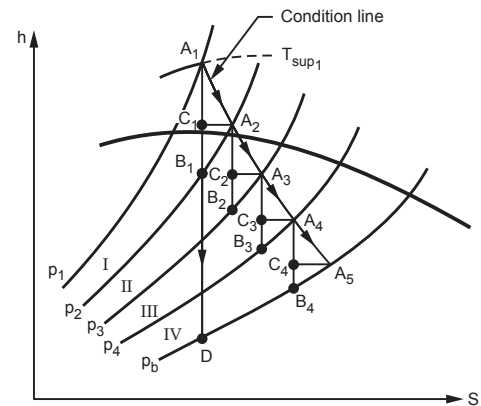

Fig. 3.31 : Reheat factor
- For understanding the concept of friction in steam turbines, consider the expansion of steam in a four stage turbine. Refer Fig. 3.31.